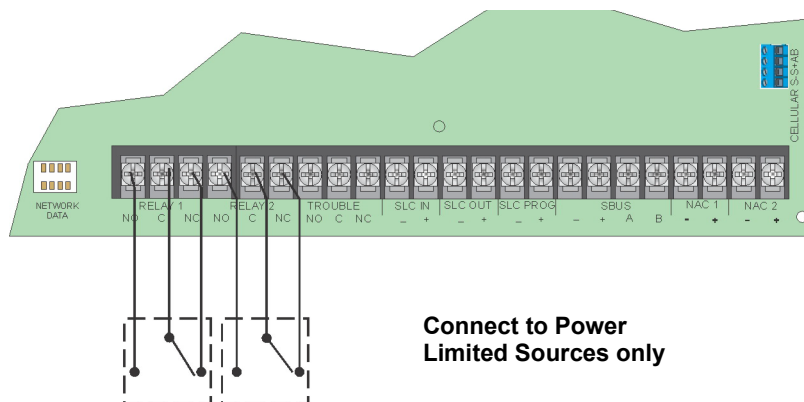

Figure 4.46 Location of Conventional Relay Circuits
1. Wire Relay 1 and/or Relay 2 as needed for your application. See Figure 4.46 for the location of the relay terminals.